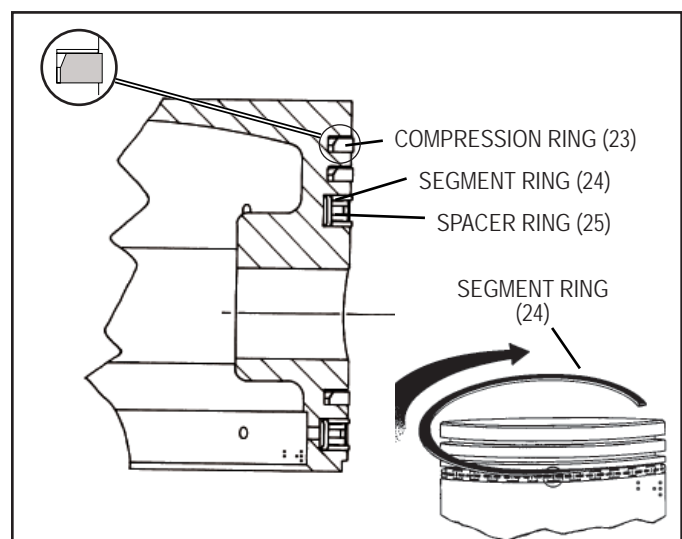

FIGURE 14 - PISTON & RINGS
1. Install the spacer and segment rings as follows. Place the spacer ring (25) in the piston groove, the ends of the spacer must butt and not overlap. Install the top segment (24) by inserting one end above the spacer in the ring groove, 120 degrees from the spacer ends and wind the segment into position. Install the bottom segment in the same manner beneath the spacer making sure the gap is staggered 120 degrees from both the top ring segment and the spacer end gaps. Before using be sure both painted ends of the spacer are visible and butted.
2. Install the compression rings (23) in the proper grooves with the bevel or "pip" mark (if any) toward the top of the piston. (Refer to Figure 14.)
Check the ring side clearance of each ring in the piston ring groove. (Refer to Figure 14.) If the side clearance is too large, the piston ring groove is worn beyond specifications and the piston must be replaced.